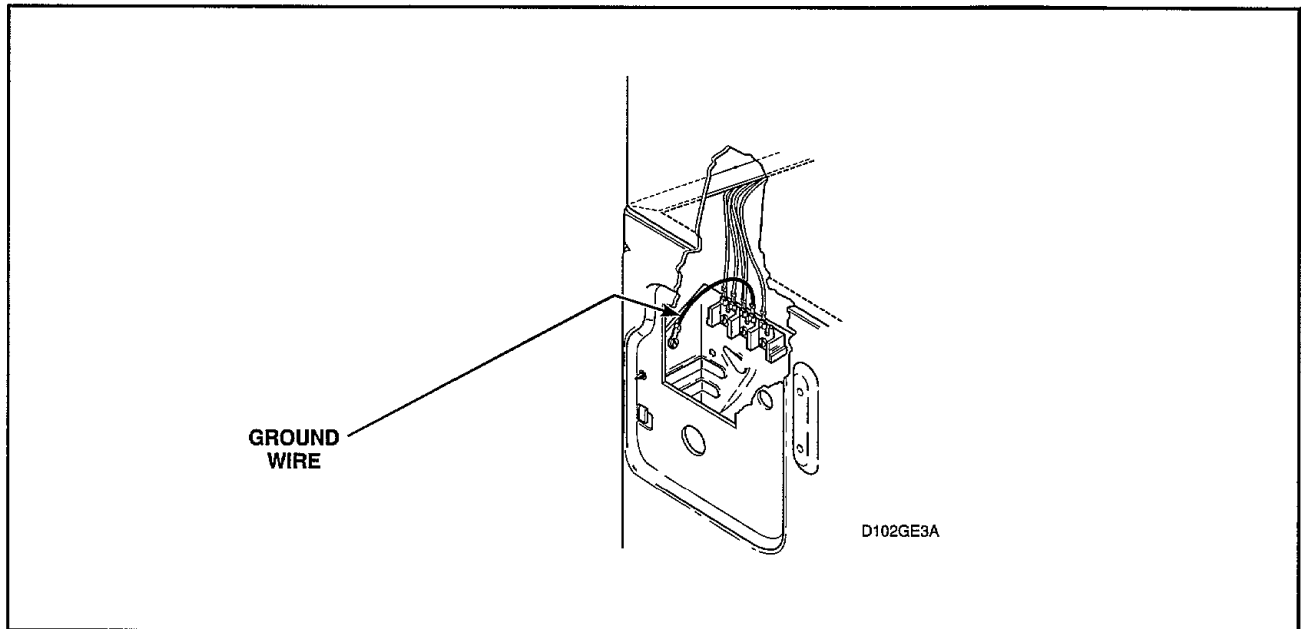

Figure 2
2. NEUTRAL AT TERMINAL BLOCK TO REAR BULKHEAD (Electric Models Only — *Figure 2*).